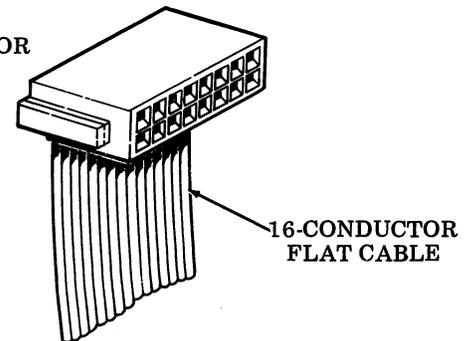

Fig. 21—Interface Connector
3.13 The connector (Fig. 21) is the electrical connection from the 40K003 ROP opcon to the associated controller.